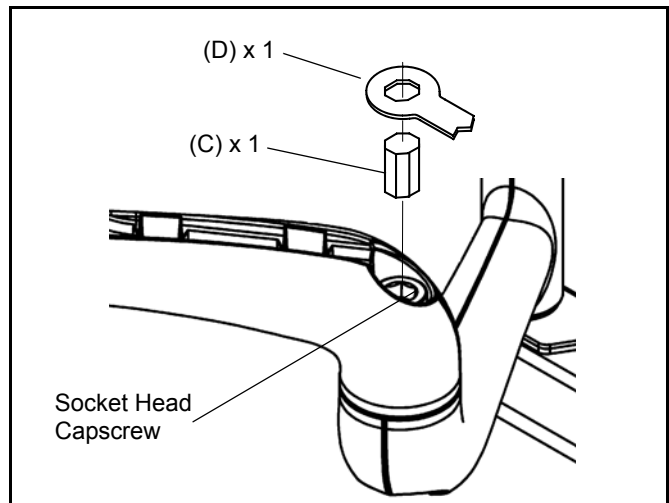

Figure 13
1. Locate the adjustment bar (H) and adjustment wrench (J).
2. Place adjustment bar (H) into socket head cap screw located at swing arm pivot point. (See Figure 13)